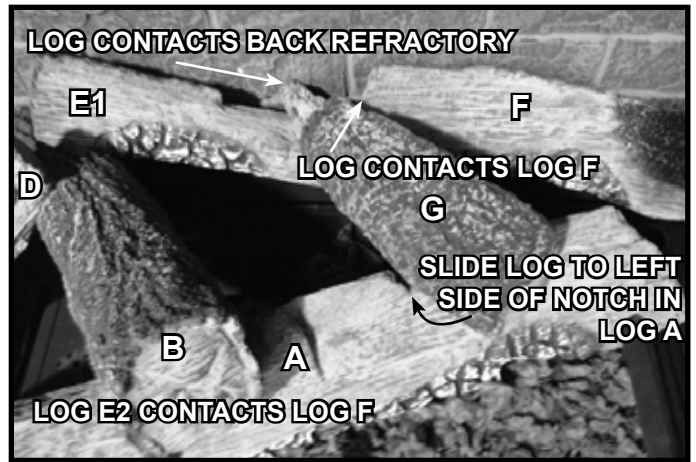

Figure 11. Log G Installed
7. **(LOG G):** Place Log G into appliance as shown in Figure 11. The narrow end of the log contacts the back refractory and the right side contacts Log F. The front of Log G rests in the notch of Log A. Log G should be positioned to the left side of the notch in Log A.